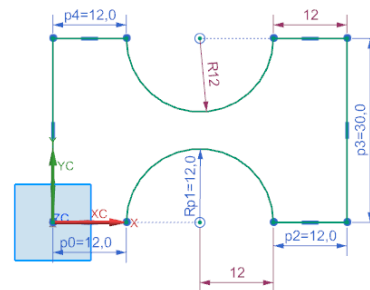

Figure 2-62 Final sketch for Tutorial 3
18. Press the ESC key twice to exit the **Profile** tool. The final sketch of the model is shown in Figure 2-62.